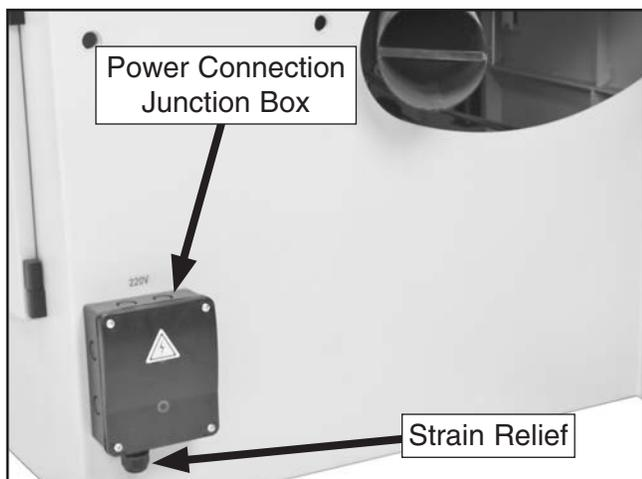

Figure 66. Location of power connection junction box.
1. Open the power connection junction box shown in **Figure 66**.
2. Feed the incoming power cord through the strain relief at the bottom of the junction box (see **Figure 66**).